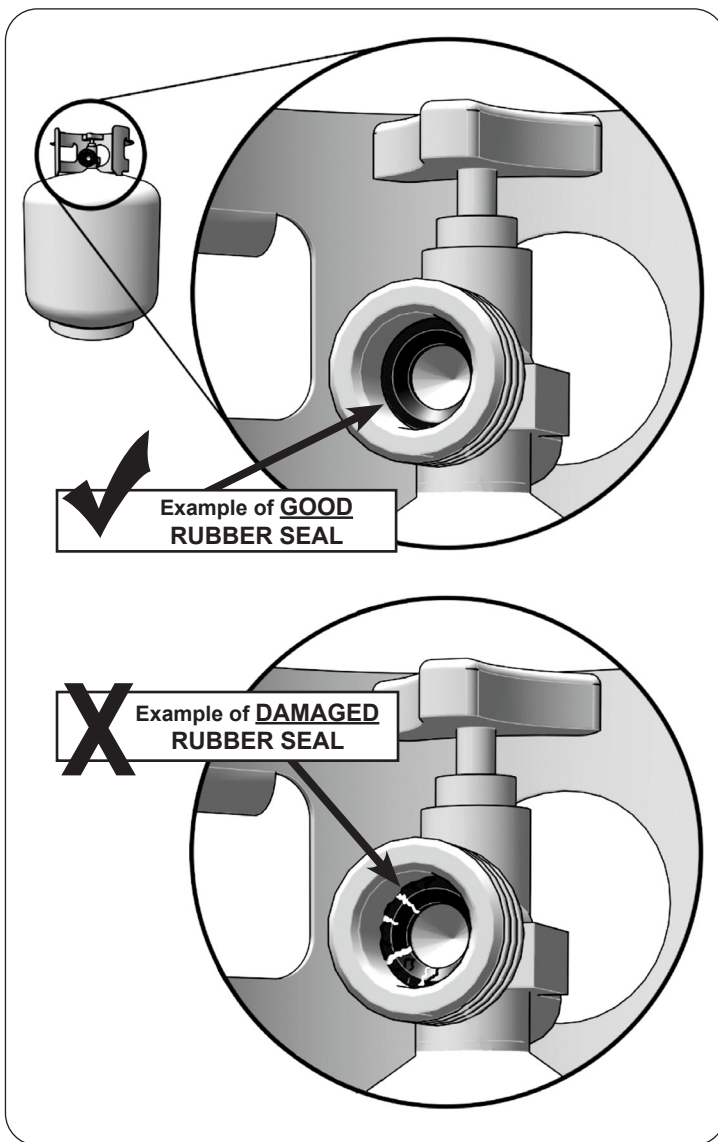

Fig. 7-1 Inspect rubber seal
- D. **CGA 791 connections on LP gas cylinders:** The cylinder face elastomeric face seal element on these devices could, over time, show marked and visible damage or deterioration that might cause a leak even with the connection tightened. A visual inspection for the seal must be carried out every time a LP gas cylinder is replaced or refilled. Any LP gas cylinder showing signs of damage or deterioration as illustrated in Fig. 7-1, including visible cracks and pitting, must be replaced.